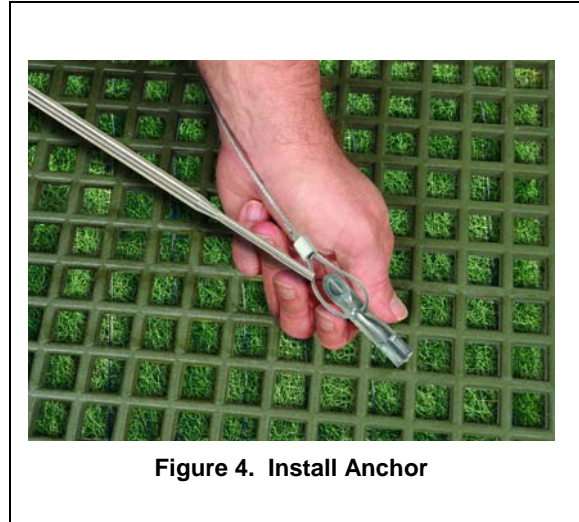

Figure 3. Connect Panels with Side Clips
7. When panels are attached side-to-side, interlock the 4 foot (long edge) side connections and secure with 2 side clips evenly spaced. Refer to Figure 3.